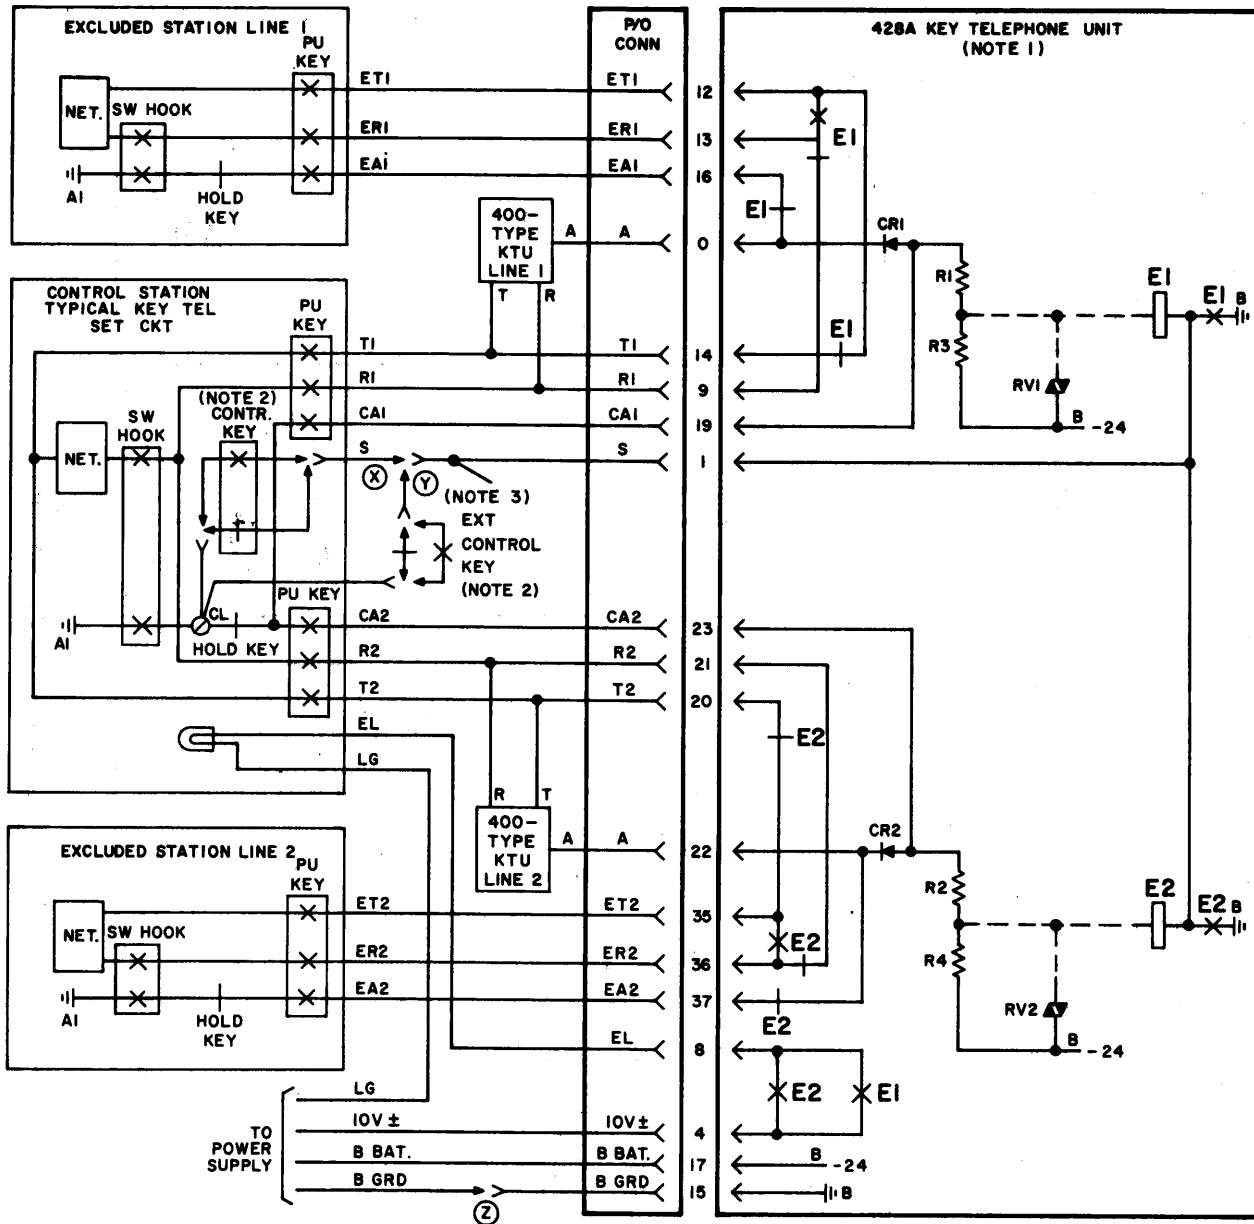

Fig. 7—Condensed Functional Schematic of 428A KTU (Multiline Exclusion Circuit)
2.05 The 428A KTU (Fig. 7) is a 4-inch, 40-contact unit which replaces the 405A KTU (MD).